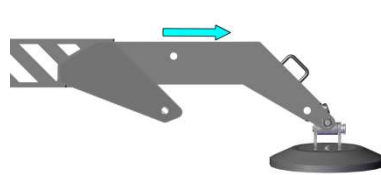

Figure: 37
- Then manually slide out the nodding section all the way to the end stop (see figure 37).